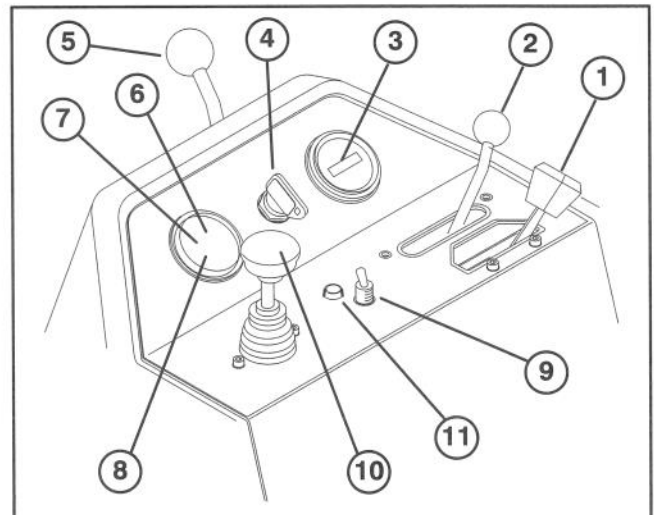

Figure 18
Choke Control (Fig. 18) – When starting a cold engine, move choke control forward. After engine starts regulate choke to keep engine running smoothly. As soon as possible, move choke rearward.
Functional Control Lever (Fig.18) – Provides two (2) traction selections, plus a “NEUTRAL” position. It is permissible to shift from mow to transport or transport to mow (not to neutral) while the Greensmaster 3200 is in motion. No damage will result.
Hour Meter (Fig.18) – Indicates the total hours of machine operation. The hour meter starts to function whenever the key switch is rotated to “ON”.
Ignition Switch (Fig. 18) – Insert key into switch, turn clockwise as far as possible to “START” position to start engine. Release key as soon as engine starts; key will move to “ON” position. Turn key counter–clockwise to “OFF” position to stop engine.
Steering Arm Locking Lever (Fig.18) – Rotate lever rearward to loosen adjustment, raise or lower steering arm for operator comfort, then, rotate lever forward to tighten adjustment.
Water Temperature Light (Fig. 18) — Light glows and engine automatically shuts–down when engine coolant temperature gets too high.
High Temperature Override Button (Fig. 18) —If engine kills due to an over heat condition, press override button in and hold until machine can be moved to a safe location and allowed to cool down.
Two Speed Transport Switch (Fig. 18) – When switch is moved to forward position, engine will run at maximum engine speed (2800 rpm). When moved to rear position, engine will run at a slower engine speed (2300 rpm) for quieter operation.
Battery Warning Light (Fig. 18) – Light glows if battery charge is low.
Oil Pressure Light (Fig. 18) — Light glows if engine oil pressure drops below a safe level.
Raise / Lower – Mow Control (Fig 18) – Moving control forward, with functional control lever in MOW, lowers the cutting units and starts the reels. Pull back on control to stop reels and raise cutting units. During operation reels can be stopped by pulling back on control momentarily and releasing. Restart reels by moving control forward.